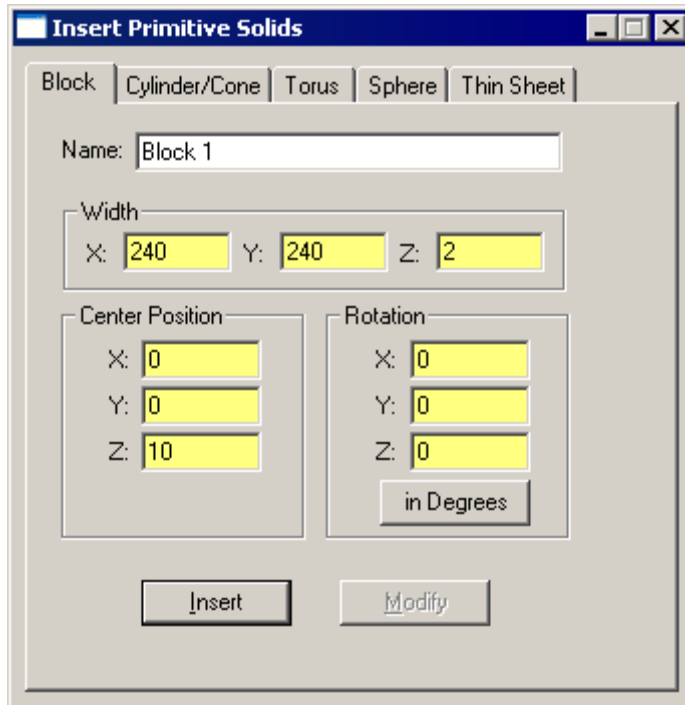

FIGURE 9.9 - Insert a block into a TracePro model as a substrate for the Fresnel lens.
7. In TracePro, using the **Geometry|Primitive Solid** dialog box, insert a block with dimensions as shown in Figure 9.9.